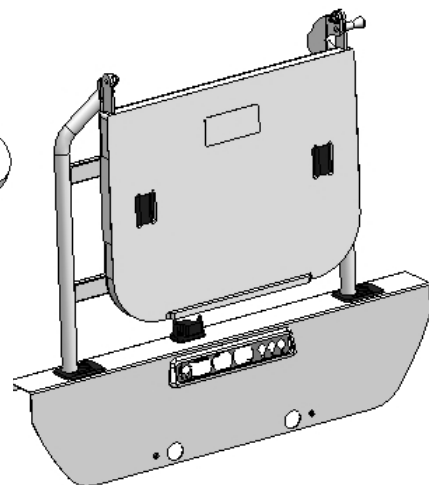

FIGURE 3
- Facing the right end of the head/foot casing (Figure 3).
See Figure 3 below.
3. To support a monitor (Figure 3), completely fold back the tray towards the inside of the bed and release the lock pin.